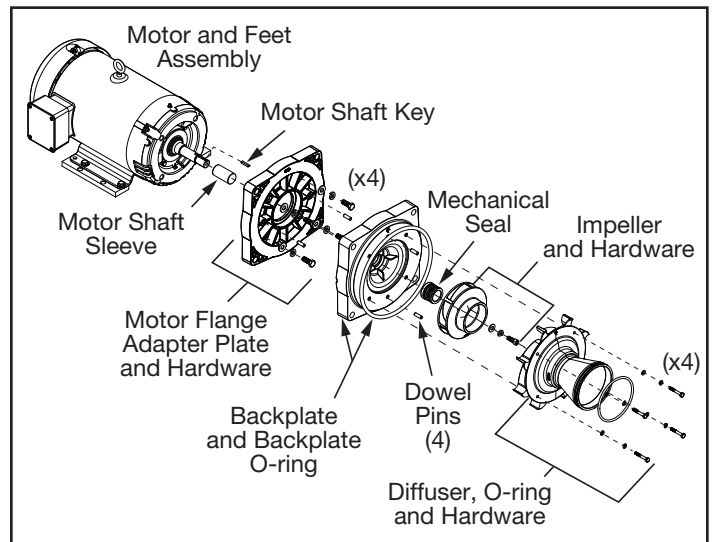

Figure 14. Remove Mechanical Seal, Impeller, Diffuser and Motor Accessories
10. Using a 7/16" wrench, loosen the four (4) Hex Screws securing the Diffuser to the Backplate. Carefully pull off the Diffuser and remove the Diffuser O-ring. See Figure 14.
16. For motors with a NEMA 182-184 JM frame, use a 9/16" socket wrench to loosen the four (4) hex screws securing the motor flange adapter plate to the motor. For NEMA 213-215 JM frames, use a 3/4" socket wrench. Carefully pull away the motor flange adapter plate avoiding any impact to the motor shaft and set aside. See Figure 14.